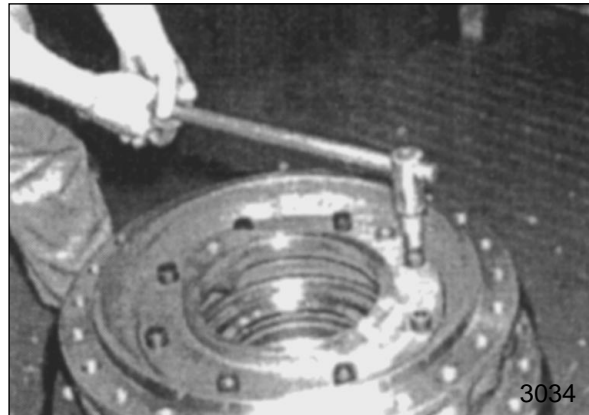

Figure 64
2. Remove motor flange (8 socket bolts, M16 x 35). Figure 64.